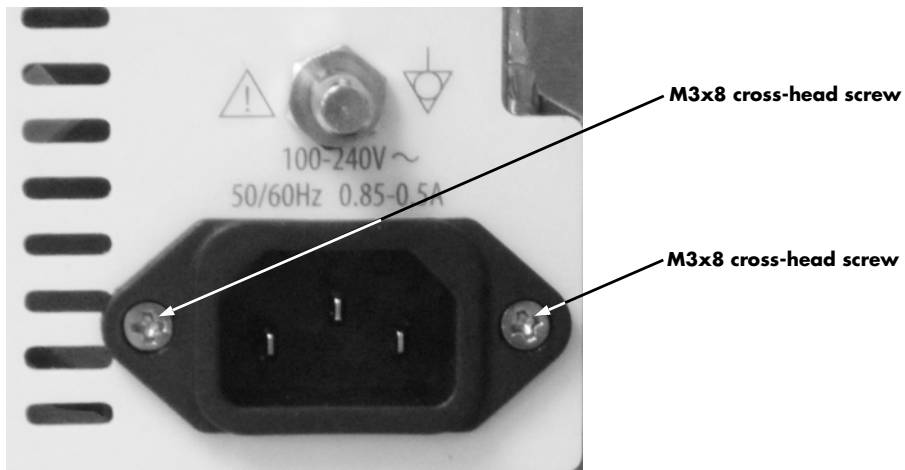

FIGURE 4-25 Remove Two (2) M3x8 cross-head screws.
3. Remove the two (2) M3x8 cross-head screws (as shown in Figure 4-25).